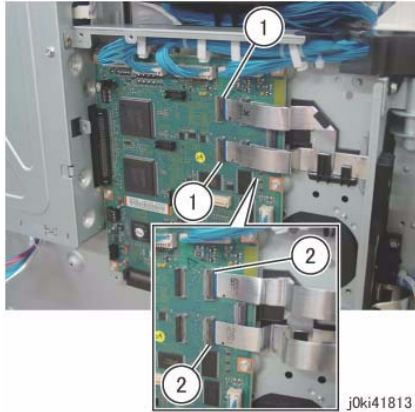

Figure 1 Disconnect the Flexible Print Cables
7. Disconnect the Flexible Print Cables. (Figure 1)